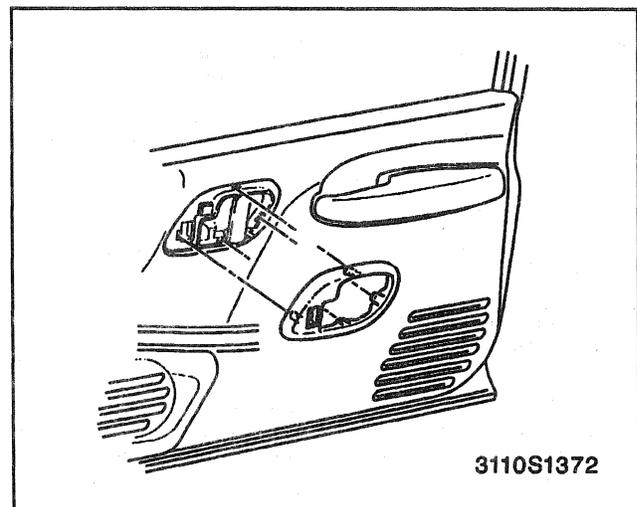

Figure 3—Front Door Inside Handle Bezel
↔ Remove or Disconnect (Figure 3)
- B. Carefully bend retaining clips outward while pulling out bezel. Refer to arrows shown in Figure 3.
↔ Install or Connect (Figure 3)